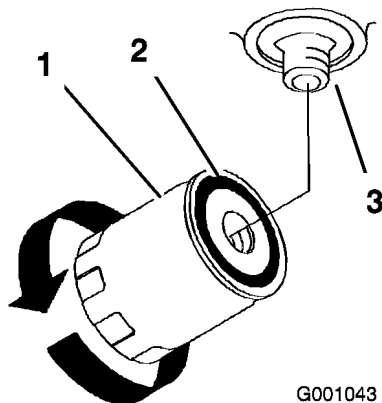

Figure 72
4. Apply a thin coat to the rubber gasket on the replacement filter (Figure 72).
6. Fill the hydraulic tank with hydraulic fluid until the fluid overflows the filter and then turn the oil filter clockwise until the rubber gasket contacts the filter adapter, then tighten the filter an additional 1/2 turn (Figure 72).